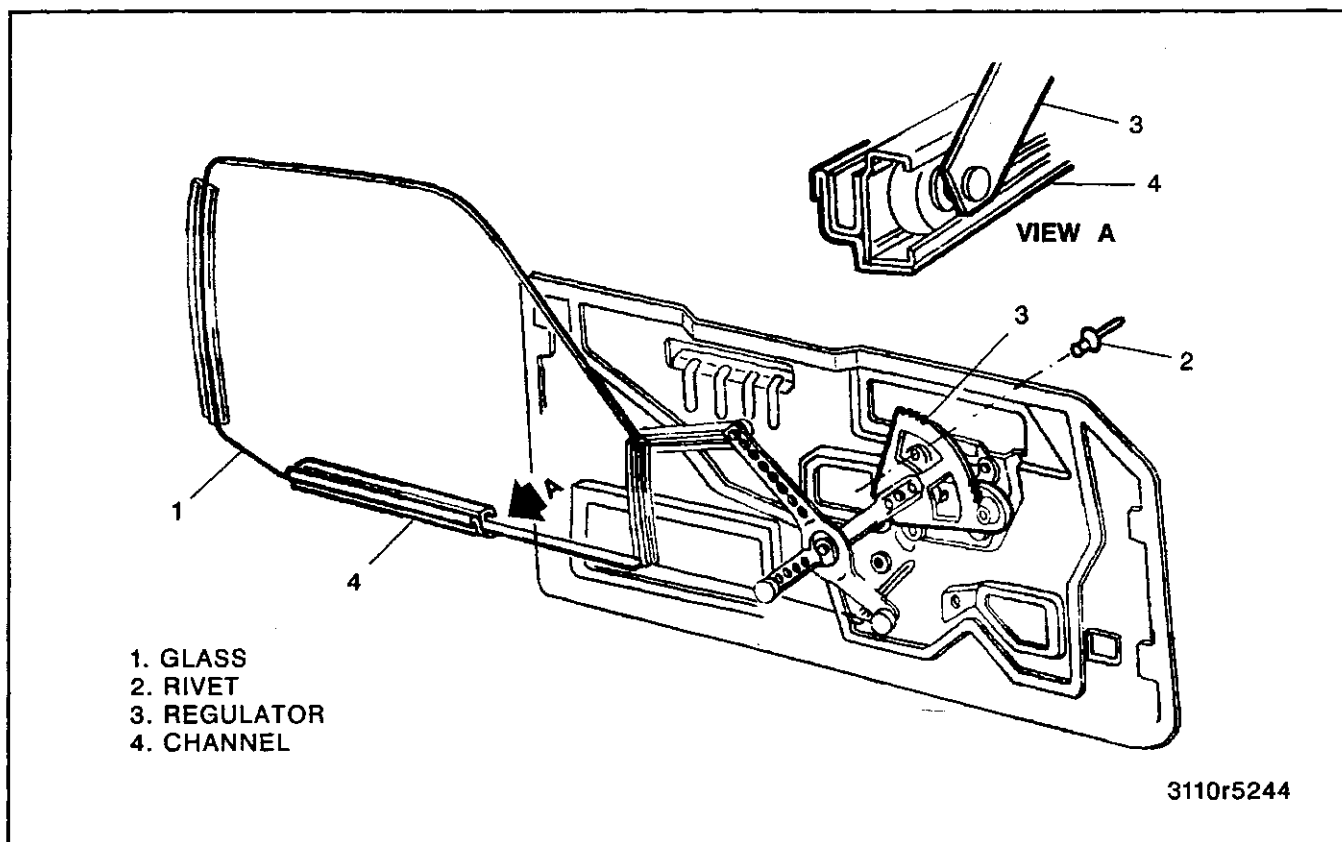

Figure 22—Window Regulator
### Remove or Disconnect (Figures 22 and 23)
### Install or Connect (Figures 22 and 23)
↔ Remove or Disconnect (Figures 22, 23, and 24)
4. Slide glass from the channel (figures 22 and 23).
→ Install or Connect (Figures 22, 23, and 24)